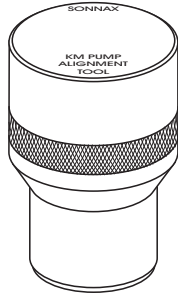

Figure 202
8. There is available from Sonnax®, an oil pump alignment tool, that is **mandatory** for proper oil pump to cover alignment (See Figure 202).